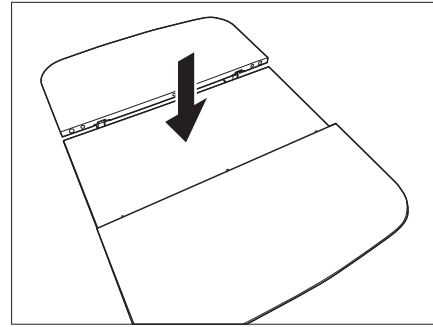

Fig. 103 Lower the middle part
- Push the middle part of the table firmly downwards (Fig. 103). The middle part is pushed upwards through the spring force.
- Push the middle part of the table firmly downwards. The middle part latches into the lower position (Fig. 103).